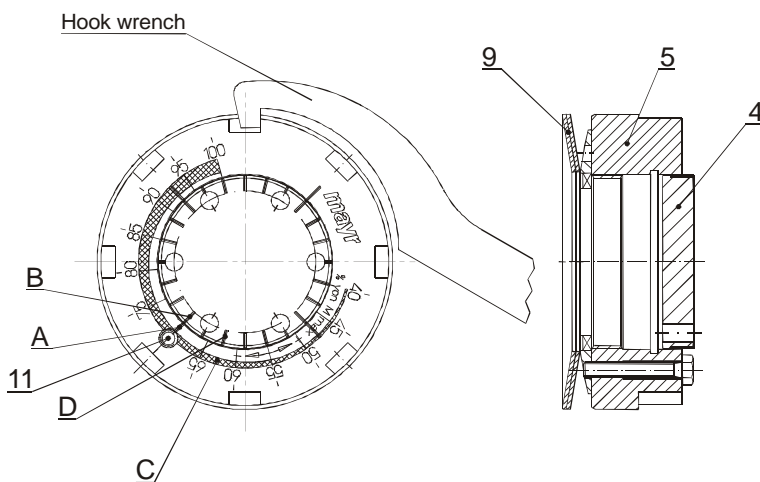

Fig. 2
You should be facing the adjusting nut (5) as in Fig. 2.
- ❑ Remove the locking screw (11) from the adjusting nut (5).
- ❑ Turn the adjusting nut (5) using the engraved adjustment scale (Fig. 2) clockwise or anti-clockwise using a hook wrench until the required torque is reached.
- ❑ The required torque results from the marking overlap (D) on the graduation scale ring (4) and the percent value (C) on the adjusting nut (5) (Fig 2).
- ❑ Paint the locking screw (11) using Loctite 243 and screw it into the adjusting nut (5); here the 4 notches (A) in the adjusting nut (5) and the notches (B) in the graduation scale ring (4) must be in the same position (Fig. 2). Slight corrections may be necessary.
Screw open the adjusting nut (5) acc. the facing side graduation scale (Fig. 2) using a hook wrench from 70 % to 80 % **anti-clockwise**.
Screw the adjusting nut (5) closed acc. the facing side graduation scale (Fig. 2) using a hook wrench from 75 % to 60 % **clockwise**.